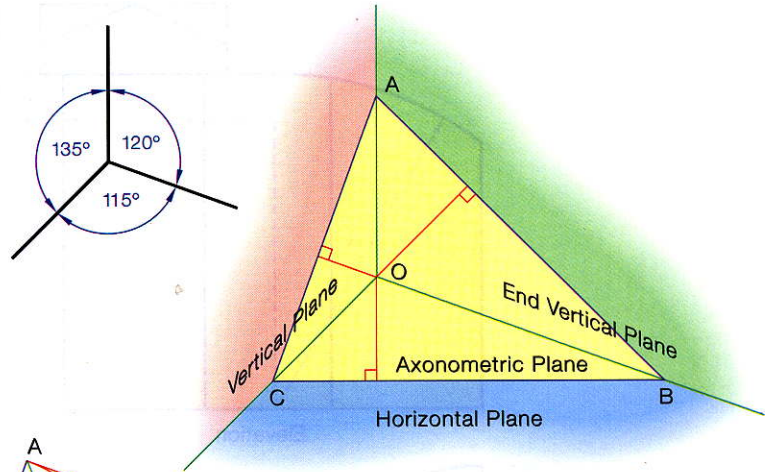

Fig. 6.83
- (1) Set up the axes as shown in Fig. 6.83.
- (2) The true shape of the axonometric plane is now drawn. Like the previous example, the edges of the plane are positioned so that they are perpendicular to the opposite axis. Edge AB is perpendicular to axis CO , edge AC is perpendicular to BO etc. The size of the triangle does not matter.